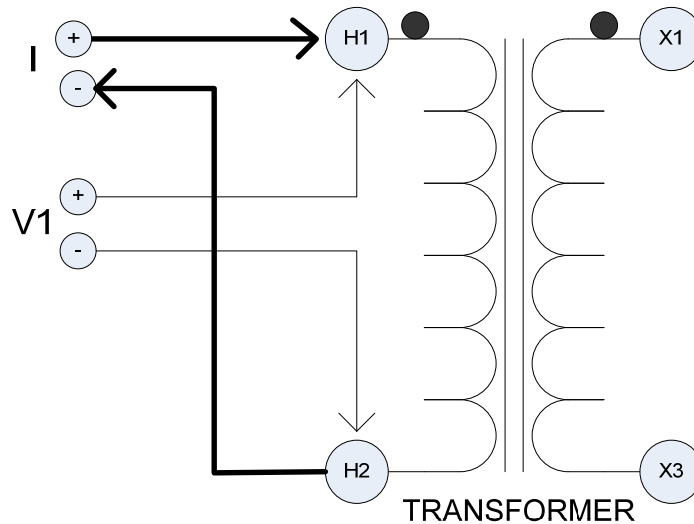

Figure 2: Single Winding Measurement
4. Connect current leads (I) to test specimen winding. See *Figure 2*.